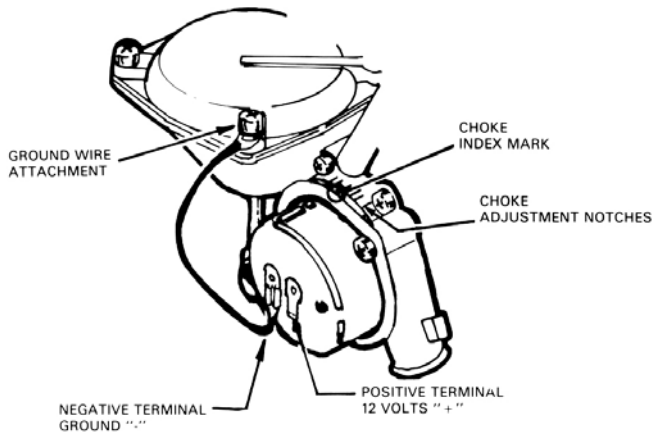

Figure 11
**NOTE:** Be sure the other connector is connected to a good ground. See Figure 11.
1. There will be an index mark on the choke cap and there will be adjustment notches on the choke cap housing. For initial setting make sure index mark is in the center of the adjustment notches. See Figure 11.